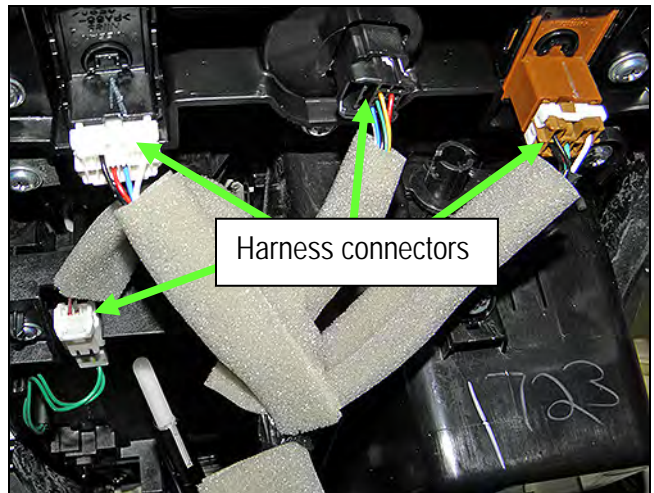

Figure 25B
- c. While lifting the shift selector finisher, disconnect the four harness connectors exposed at the rear of the center console (Figure 25B).